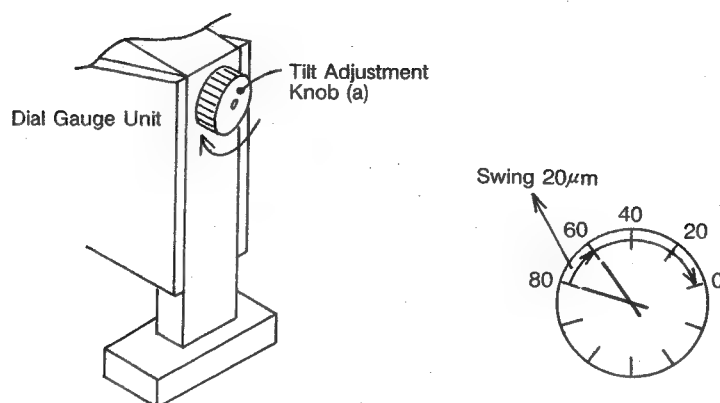

Fig. 7-7-6
- 1) Before installing the Dial Gauge Unit on the base Unit turn Tilt Adjustment Knob (a) clockwise until the meter of dial gauge swings 20 μm as shown in figure 7-7-6.